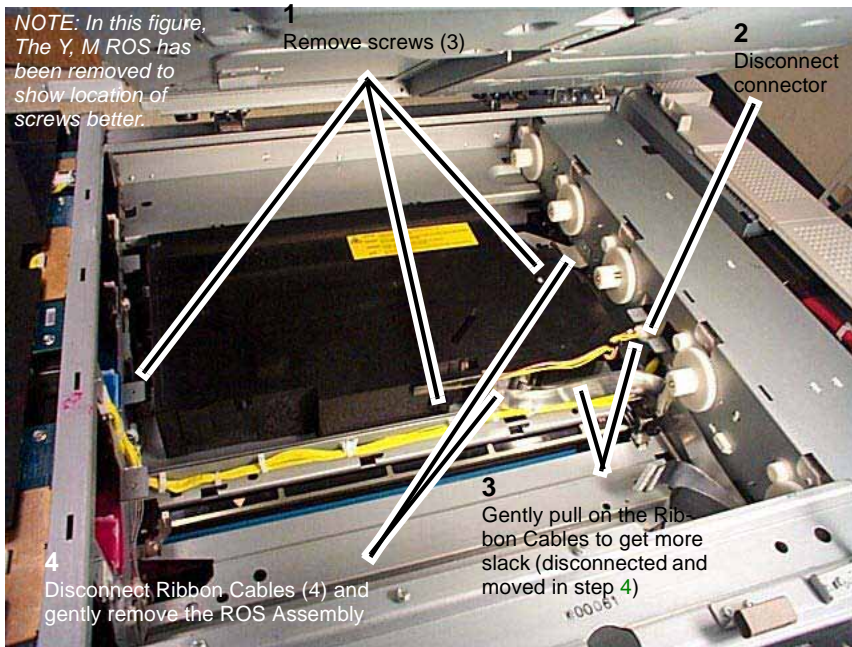

Figure 5 Removing the ROS Assembly (C, K)
9. Remove the ROS Assembly (C, K) (Figure 5).